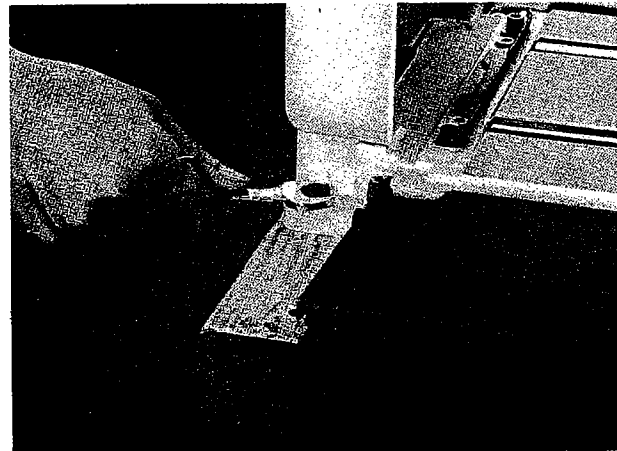

Fig.1
3. Attach drilled blocks to the base of unit using 4 four 5/16" x 1 3/4 lag bolts. Tighten with wrench. (Fig. 1)